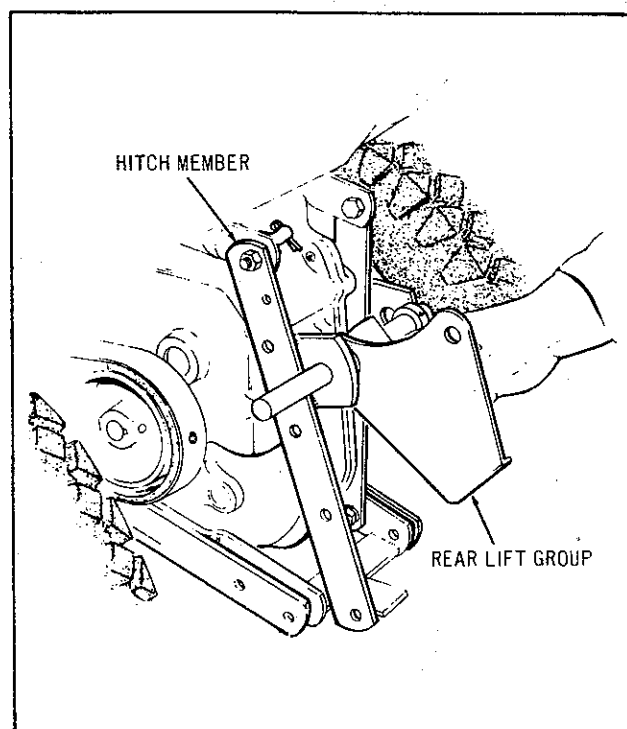

FIG. 2
2. Swing hitch member outward and install Lift Assembly as shown. Return hitch member to original position and replace Hex. Cap Screws. See Figure 2.